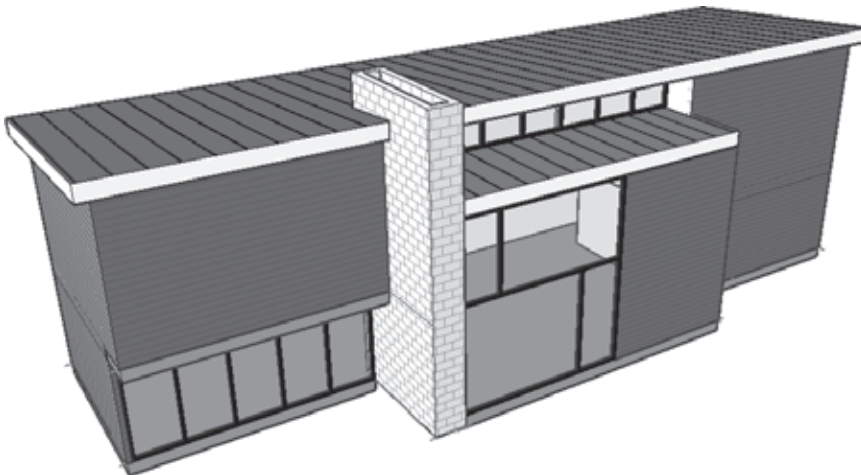

Figure 4.92
6. Open the Exterior Perspective 3D view, and look at your model in 3D (see Figure 4.92). Remember, you can use Shift+middle mouse button to orbit the model in 3D.